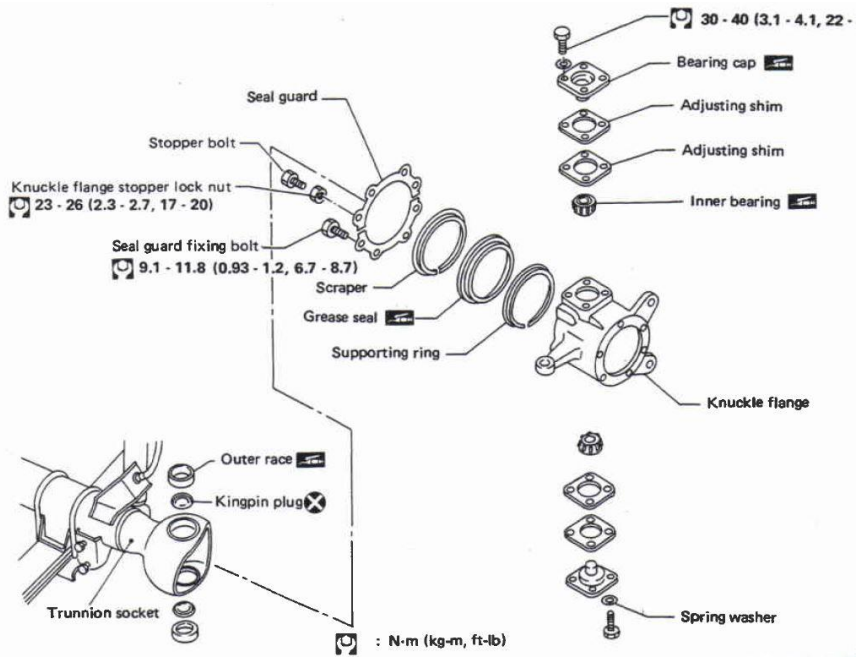
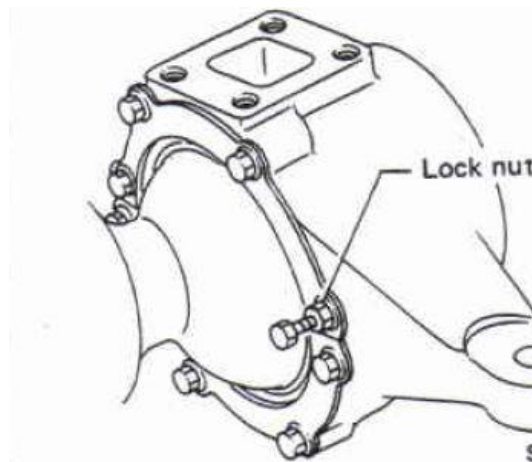

Fig 14
Fig 18
13. Install the rubber ball seal, the metal ball seal support ring and the plastic seal scraper over the axle ball and allow them to temporarily rest on the axle tube. When eventually installed to the hub knuckle, the orientation of the ball seal, retainer and scraper is as per the images below. Use these orientation diagrams (Figs 14 & 15) as guides when installing these seals.
16. Install the axle ball seal supporting ring, ball seal and ball scraper ring as per figures 14 & 15. Reinstall the grease seal guard/retainer as per fig 18.